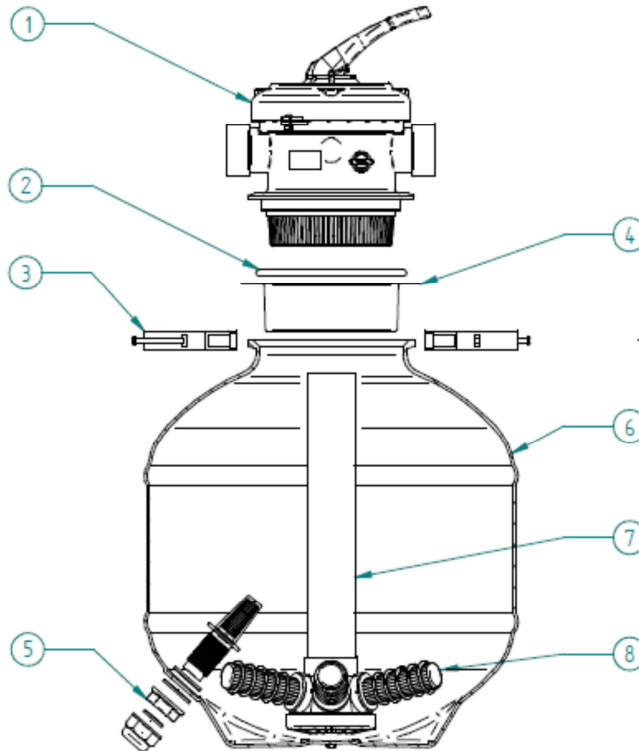
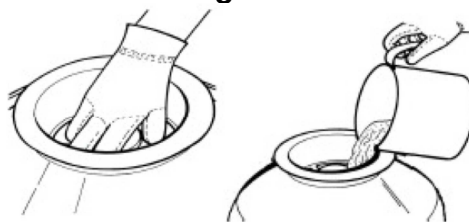

Fig. 14
Fig. 15
3. Place the special funnel (Fig. 14, #4) on the tank's mouth, paying attention to cover properly the tube, and start to pour the *filter media* (quartz sand not supplied into the tank, Fig. 15).